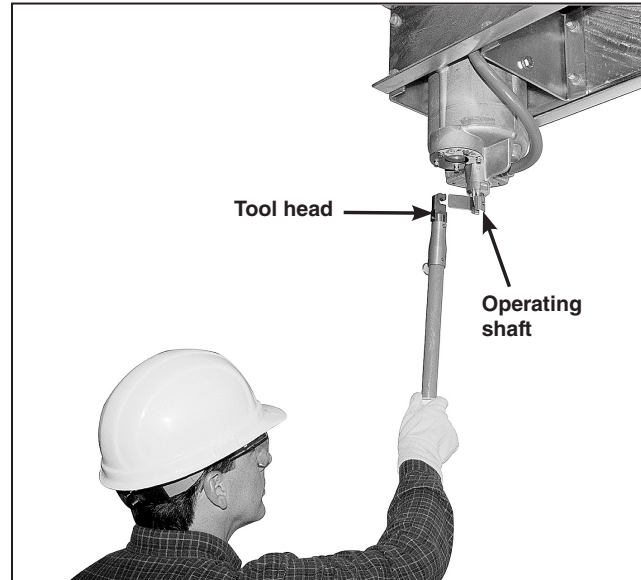

Figure 14. Guide the hooked end of the charging tool between the ears of the operating shaft.
STEP 7. Guide the hooked end of the charging tool between the ears of the pole-unit operating shaft and engage the operating shaft pin. See Figures 14, 15, and 16.